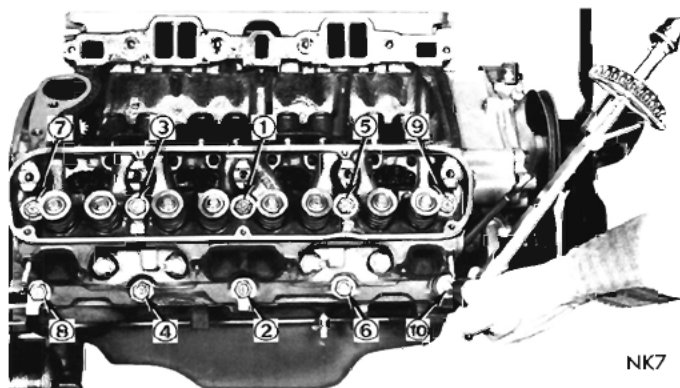

Fig. 67—Cylinder Head Tightening Sequence
(1) Inspect all surfaces with a straightedge if there is any reason to suspect leakage.
(2) Coat the new gaskets with Mopar Sealer Part Number 1057794.
(3) Remove the cylinder heads from the holding fixtures Tool C-3626 and install on the engine.
(4) On 273 and 318 Cubic Inch Engines, install and tighten all head bolts starting at top center, to 85 foot-pounds using the torque sequence, as shown in Figure 67. Repeat the procedure, retightening all head bolts to 85 foot-pounds torque.